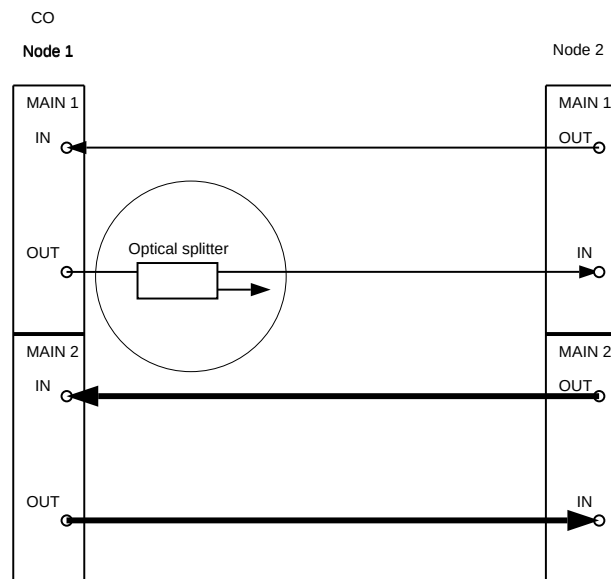

Figure 3. DDM-2000 OC-3 Drop or Add/Drop Network to Ring Upgrade
13. At Node 1, install optical splitter in **MAIN 1 OUT** optical line as shown in Figure 3.